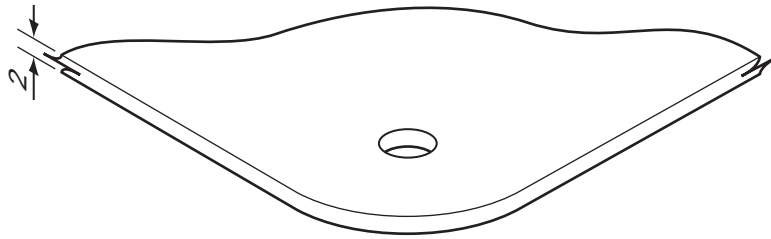

Fig. 5
- (b) Fig. 5 shows the corner of a piece of non ferrous sheet metal which has been shaped and drilled.